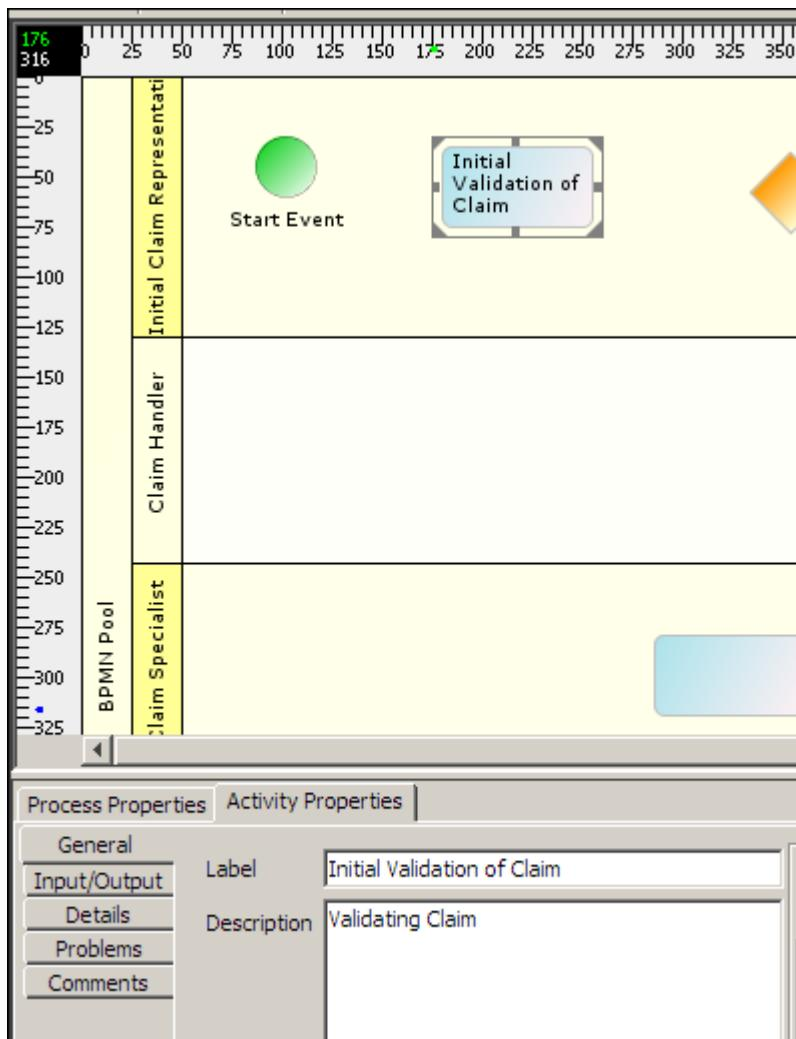

Figure 13: Displaying Name of Activity
2. Click the element again in the Graph Canvas to display the name in the element (see Figure 13).